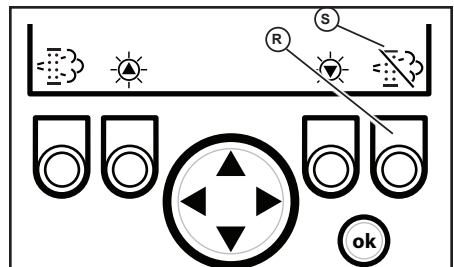

Fig. 47 - Reset Regeneration Inhibit button
To temporarily inhibit reset regeneration, hold down button (R, Fig. 47) until the strike-through in the Reset Regeneration symbol (S) turns to red.
**NOTE:** The stationary regeneration request screen can be temporarily dismissed by pressing the reset regeneration inhibit button (R, Fig. 47) for 3 seconds. Until the previous screen displays. The stationary regeneration request screen will return 1 minute after being dismissed, for as long as the request remains active.